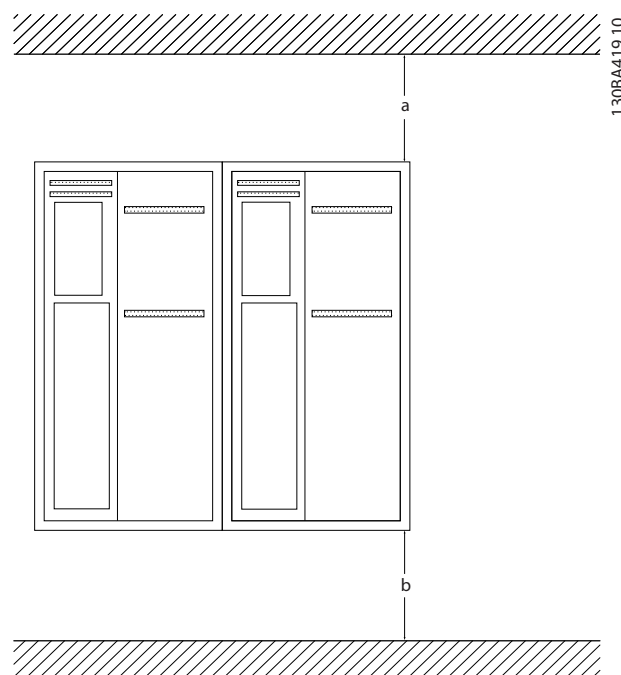

Figure 2.1 Top and Bottom Cooling Clearance
- Top and bottom clearance for air cooling must be provided. Generally, 4–10 in [100–225 mm] is required. See Figure 2.1 for clearance requirements